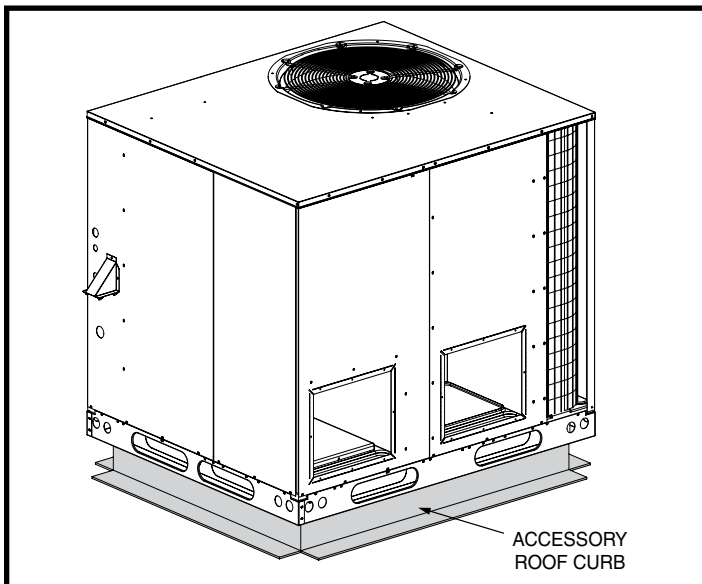

Figure 3. Roof Top Installation
- The appropriate accessory roof curb must be installed prior to unit installation. The roof curb must be square and level to ensure proper condensate drainage. **Please follow all instructions provided with the kit.** See Figure 3 \(page 10\).